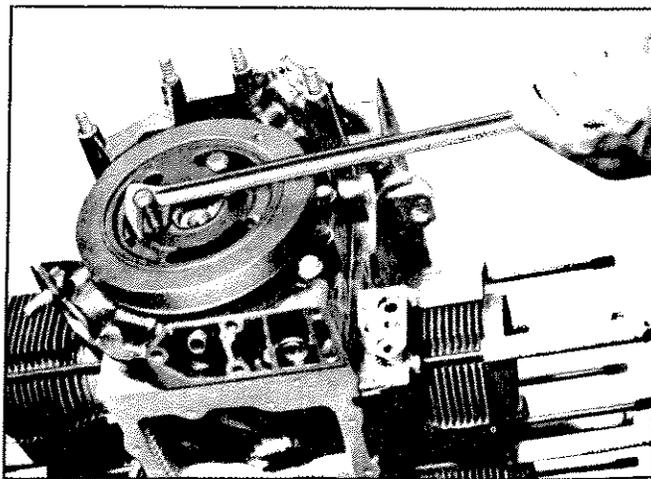

Fig. 63—Turning Crankshaft
**CAUTION:** If torque required to turn crankshaft exceeds specified torque for crankshaft bolt, install two 3/8" x 16 x 1-1/4" bolts in crankshaft pulley and hub or harmonic balancer. (Do not install bolts over 1/4 deep or engine rear housing seal may be damaged.) A bar, used between the bolts (fig. 63), can be used to turn the crankshaft.